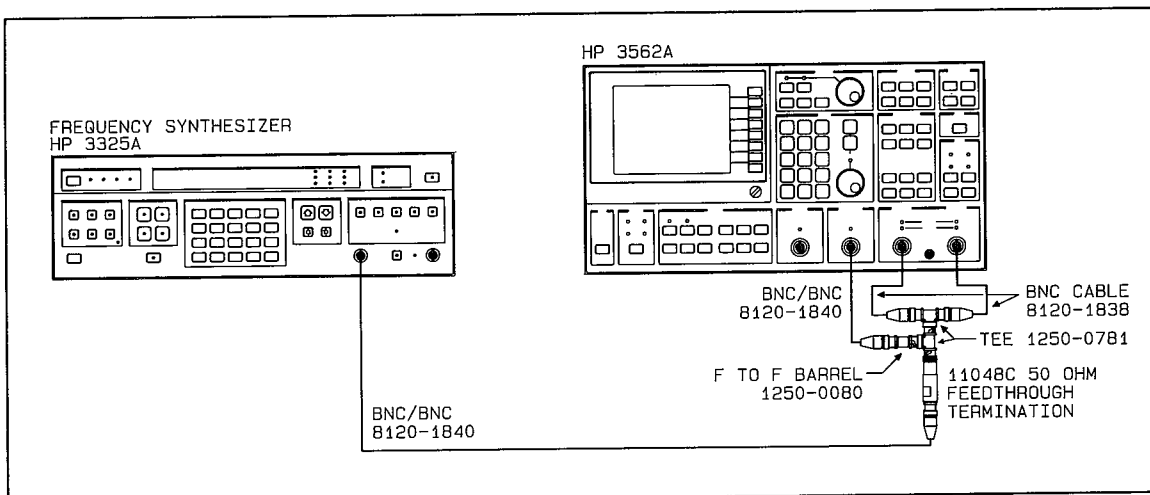

Figure 2-8 (OV) Single Channel Phase Accuracy Test Setup
- A. Connect the test instruments as shown in figure 2-8. Refer to "Initial Equipment Setup," section 2-6, for unspecified parameters.